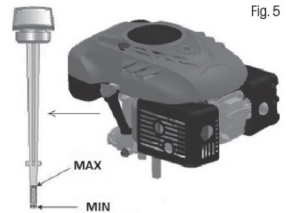

Fig. 5
2. Pull the cap with the oil dipstick out of the oil refi ll hole (Fig. 5).
4. The oil level must be between the upper (MAX) and lower (MIN) limit (Fig. 5).